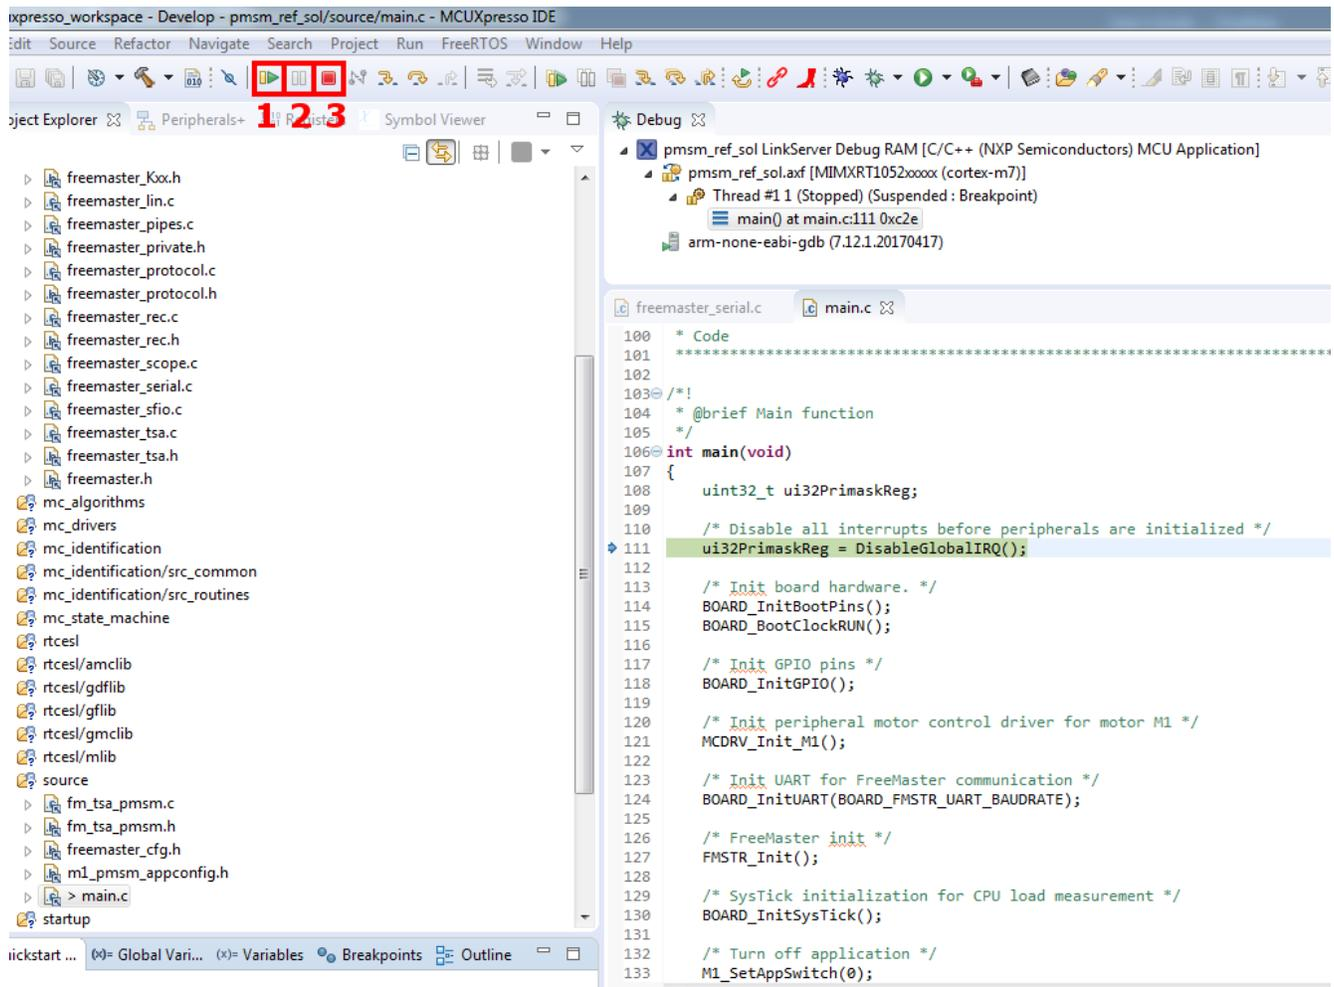

Figure 22. MCUXpresso debug workspace
4. In a few seconds, the compiled application is downloaded to the MIMXRT10xx-EVK’s RAM memory. As shown in Figure 22, the layout is switched to the debugging mode. The program execution stops at the “main” function.
- To run the application, press the “Resume” button (Point 1 in Figure 22).
- To pause the running application, press the “Suspend” button (Point 2 in Figure 22).
- To stop debugging, press the “Terminate” button (Point 3 in Figure 22).
5. After a few seconds, the compiled application is downloaded to the MIXMRT10xx-EVK’s Hyper Flash memory. As shown in Figure 22, the layout is switched to the debugging mode. The